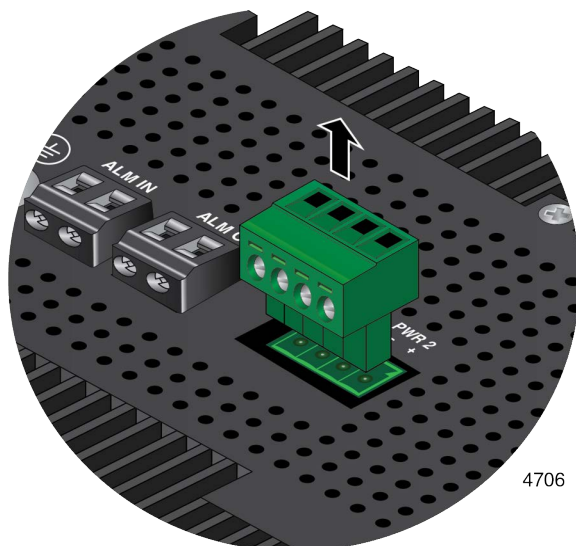

Figure 57. Removing the PWR 1 - PWR 2 Cable Connector
3. Remove the PWR 1 - PWR 2 connector from the top panel. Refer to Figure 57.